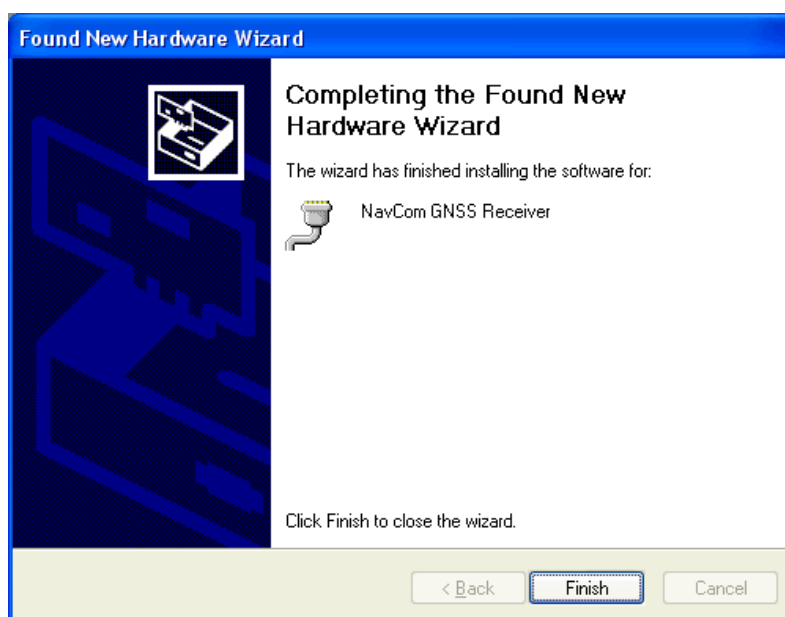

Figure 37: Completing the Found New Hardware Wizard
8. Click *Finish* on the *Completing the Found New Hardware Wizard* message dialog box (see Figure 37).